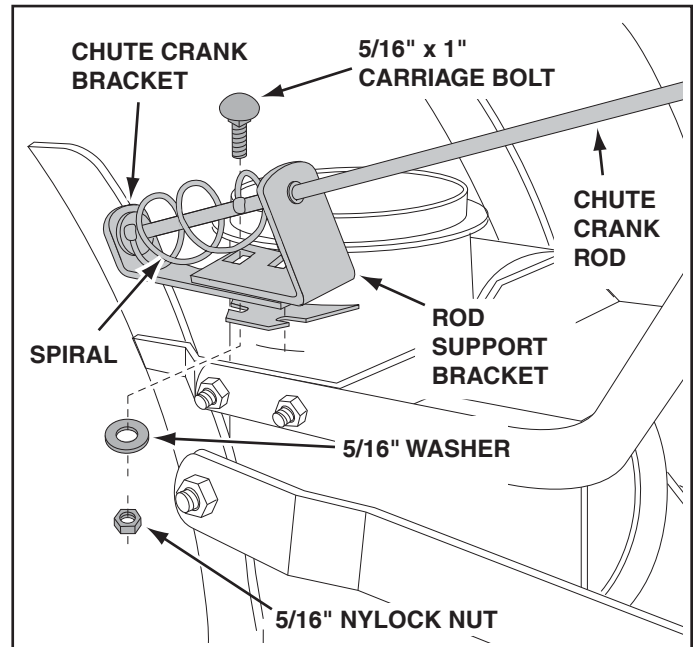

FIGURE 26
STEP 28: (SEE FIGURE 26)
- Position the crank rod spiral (see figure 26 on page 14) so that it does not rub against the bottoms of the notches in the chute flange. **Tighten** the nuts.